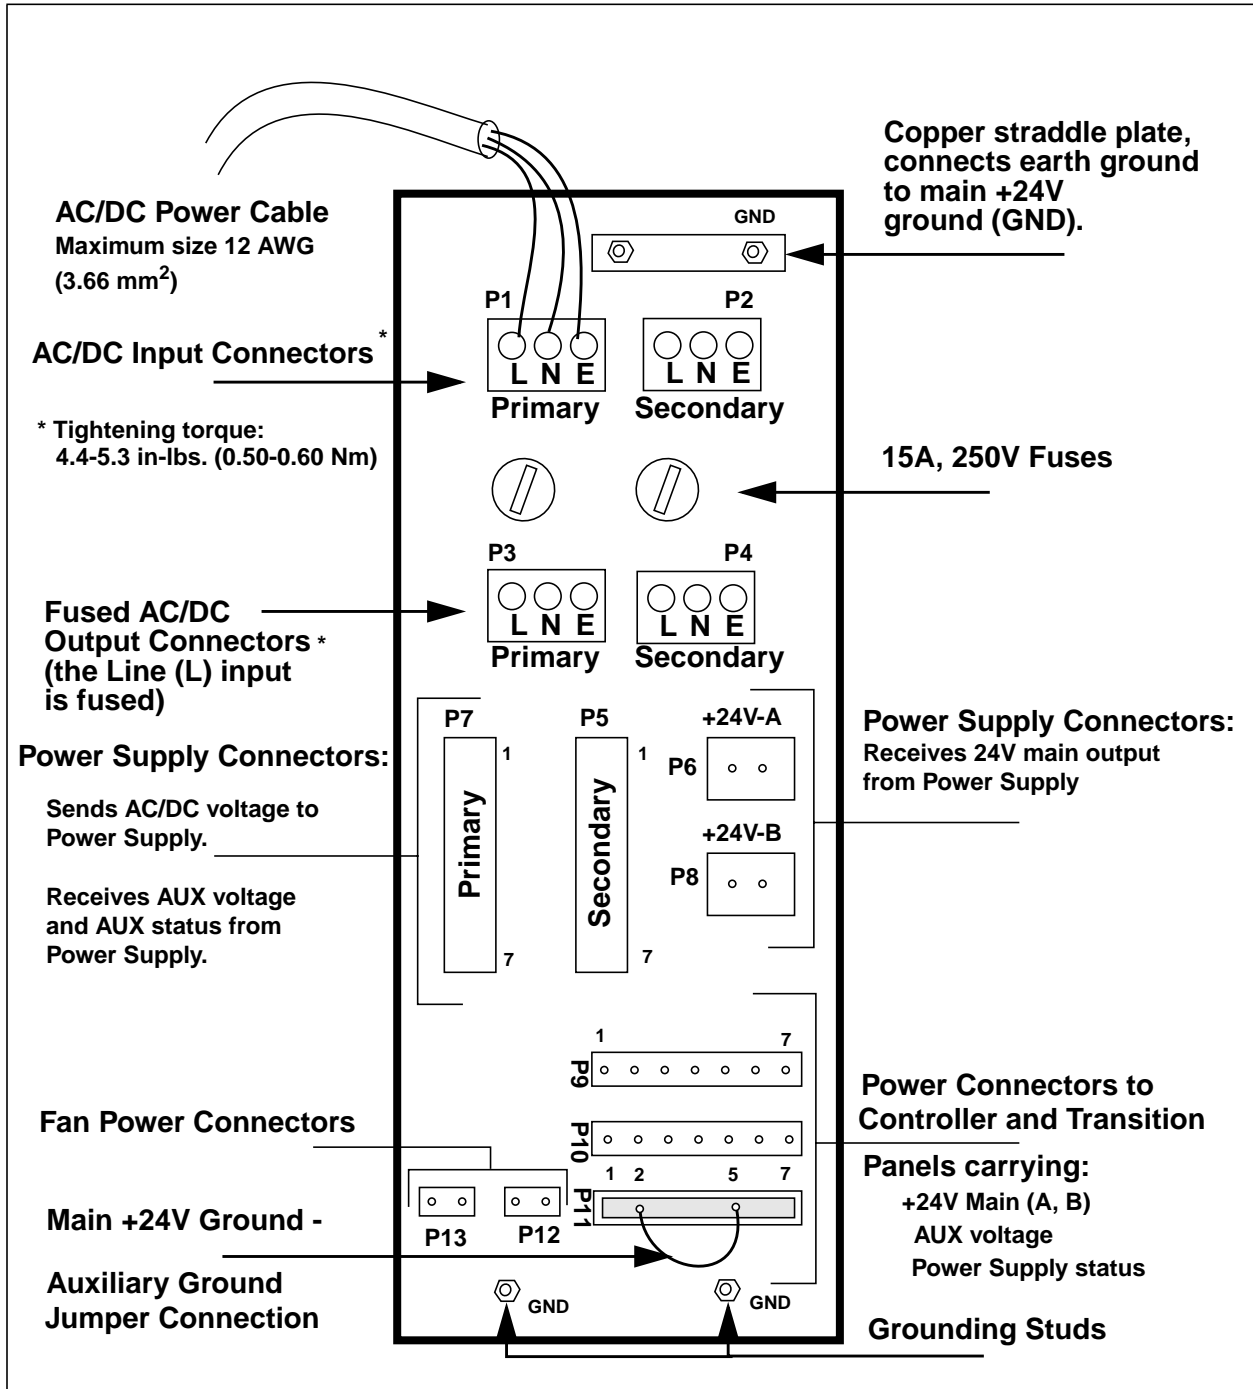

Figure 26-4. Ovation Power Distribution Module (PDM)
- Power Distribution Module (5A26304) - Provides connectors for cables used to distribute +24V to the Redundant Controller Chassis, and +24V and auxiliary power to branches of local I/O (refer to Figure 26-4).
- Power Distribution Module (5A26304) - Provides connectors for cables used to distribute power to branches of local I/O (refer to Figure 26-4).